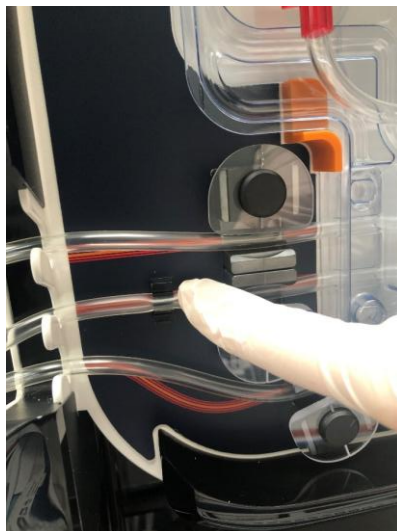

Figure 74: Collection Line optical sensor tubing installation
- Position the tubing in the Collection Line optical sensor and use your finger to press on it so as to fully push it in the sensor (See Figure 74).